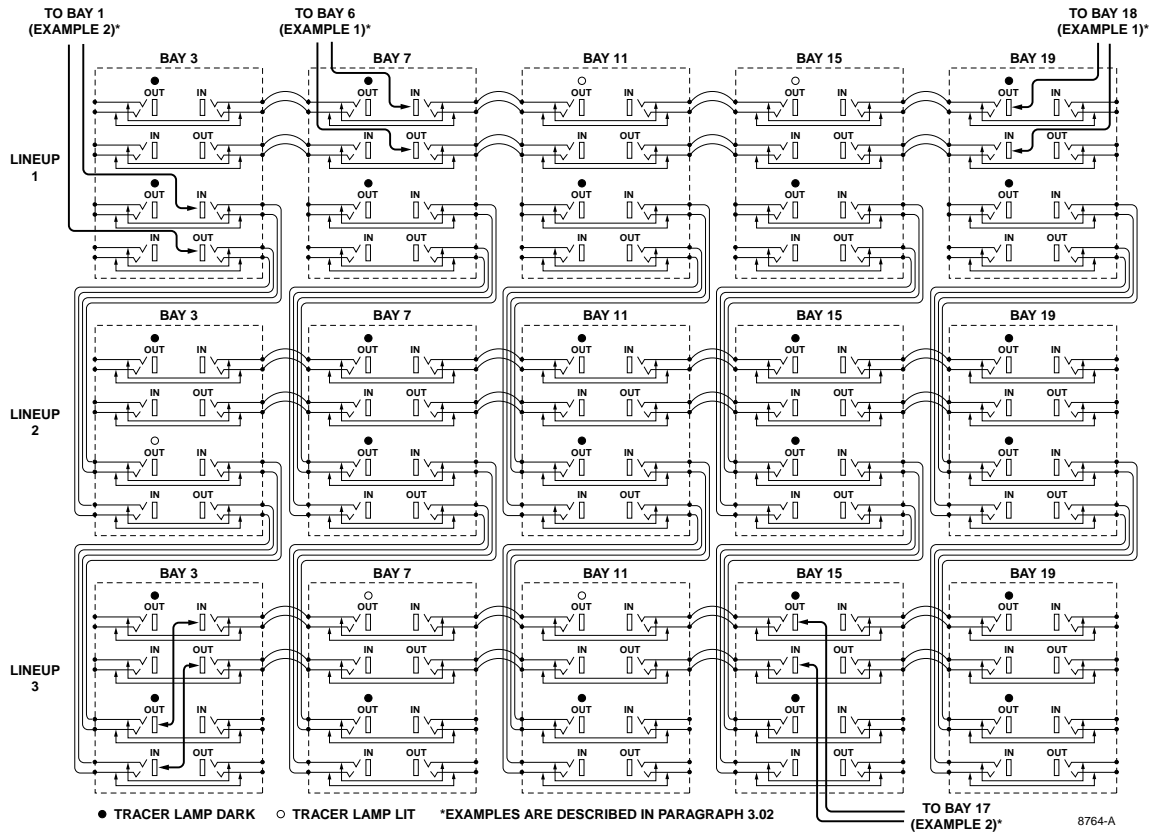

Figure 7. Recommended Interbay Patch Module Wiring
3.01 It is recommended that Interbay Patch Modules are installed and wired as shown in **Figure 7**. As shown, typically the modules are installed in maintenance bays in each DSX-1 system lineup. For simplicity only two circuits on each module are shown in multiples between modules within the lineup and two circuit multiples between modules in other lineups. In reality the circuits should be split; half multiples within the lineup and half multiples to other lineups.
3.02 Circuit patching can be accomplished with two or three sets of short patch cords when wired as recommended. The following examples describe patch procedures in a single lineup and in a multiple lineup. See **Figure 7**.